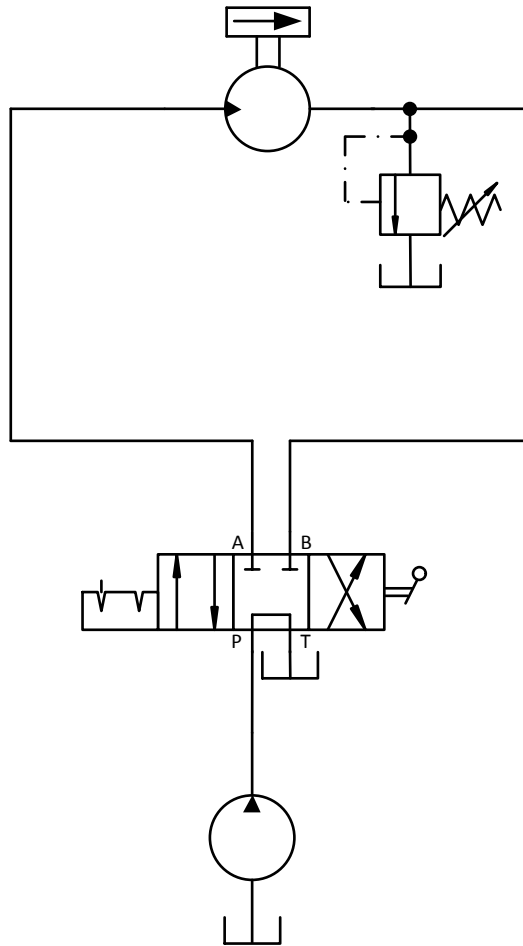

FIG 10.
- D. Such an occurrence can be prevented by fitting a relief valve which will provide adjustable braking of the motor with the flywheel mass and will also determine the maximum torque for the opposite direction of rotation. Refer to Fig 10.